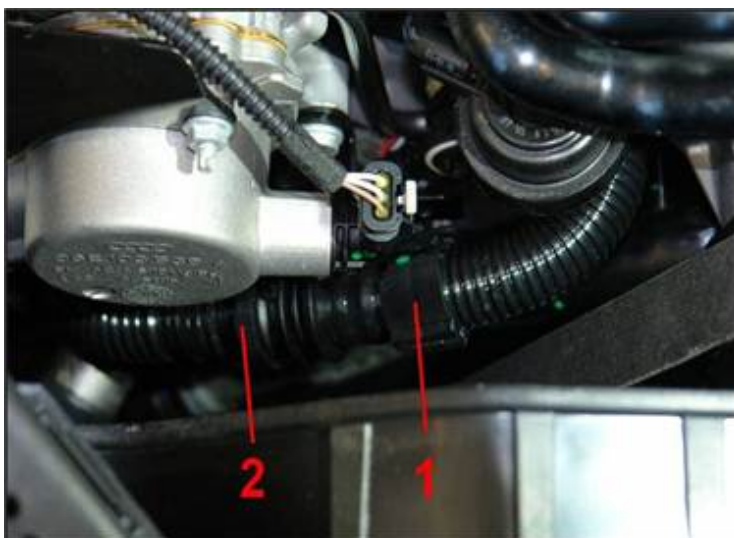

Figure 2. Bracket (1) and coupling (2) to disconnect from the secondary air injection line
1. Unclip the secondary air injection line from the bracket (Figure 2, 1) and disconnect the coupling (Figure 2, 2) by pushing both release tabs at the same time (one in the front one in the back).